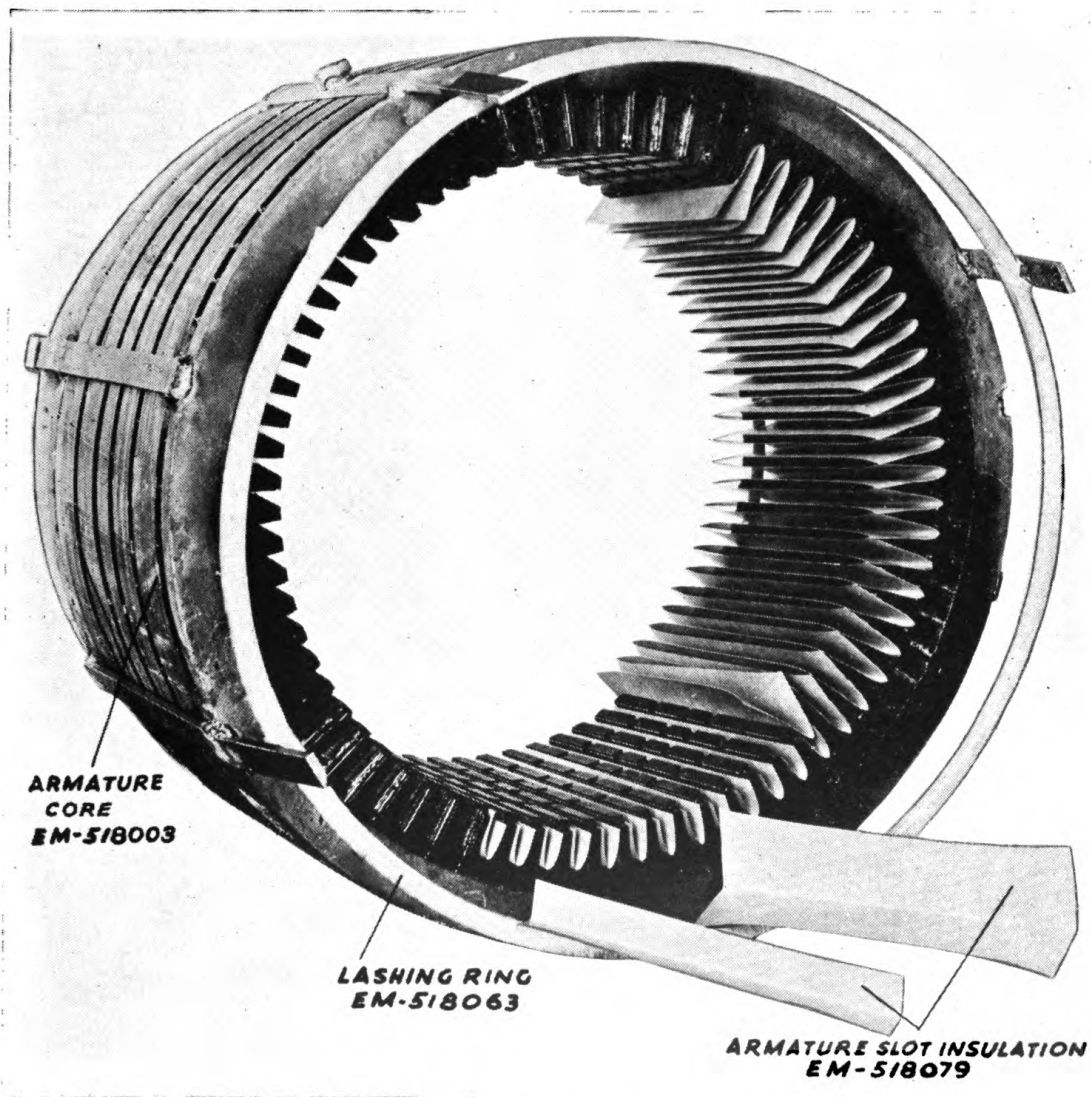

FIG. 12—Generator Armature Core and Insulation
- Figure 12 Generator armature core and insulation.